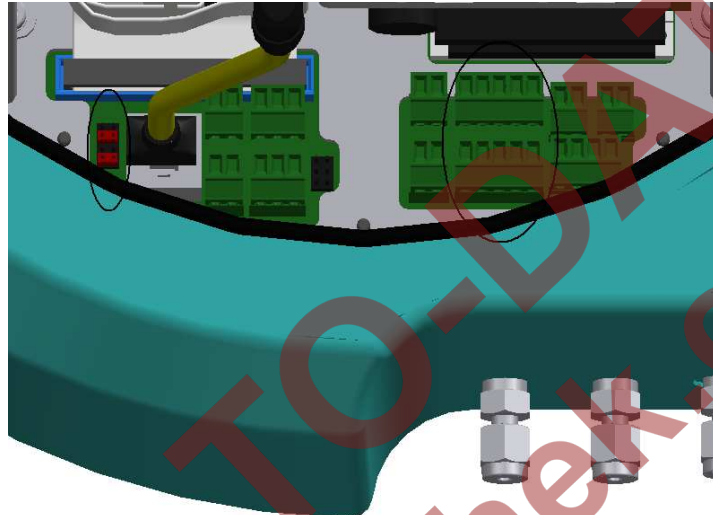

fig. 5-8 Location of Serial ModBus connector (J6)
- 2 serial ModBus ports are available, each of them independently user configurable into RS 232 or 485 (Pin lay-out and link locations see figures 5.8 and 5.9)